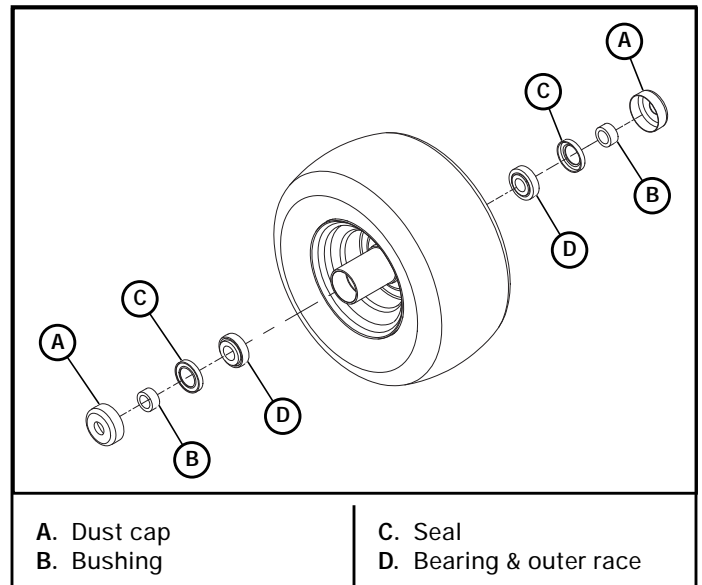

Figure 4-22
5. Insert the bushings through the seal openings and push them in until they contact the tapered roller bearings. Figure 4-22
6. Push the dust caps onto the wheel housing. Figure 4-22